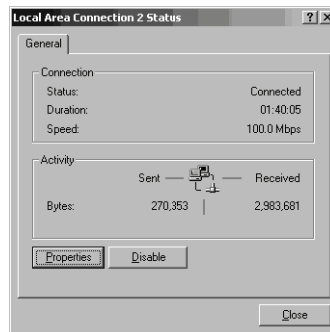

Figure 2. Local Area Connection Status Screen
2. Select **Local Area Connection** and the status screen displays (Figure 2).